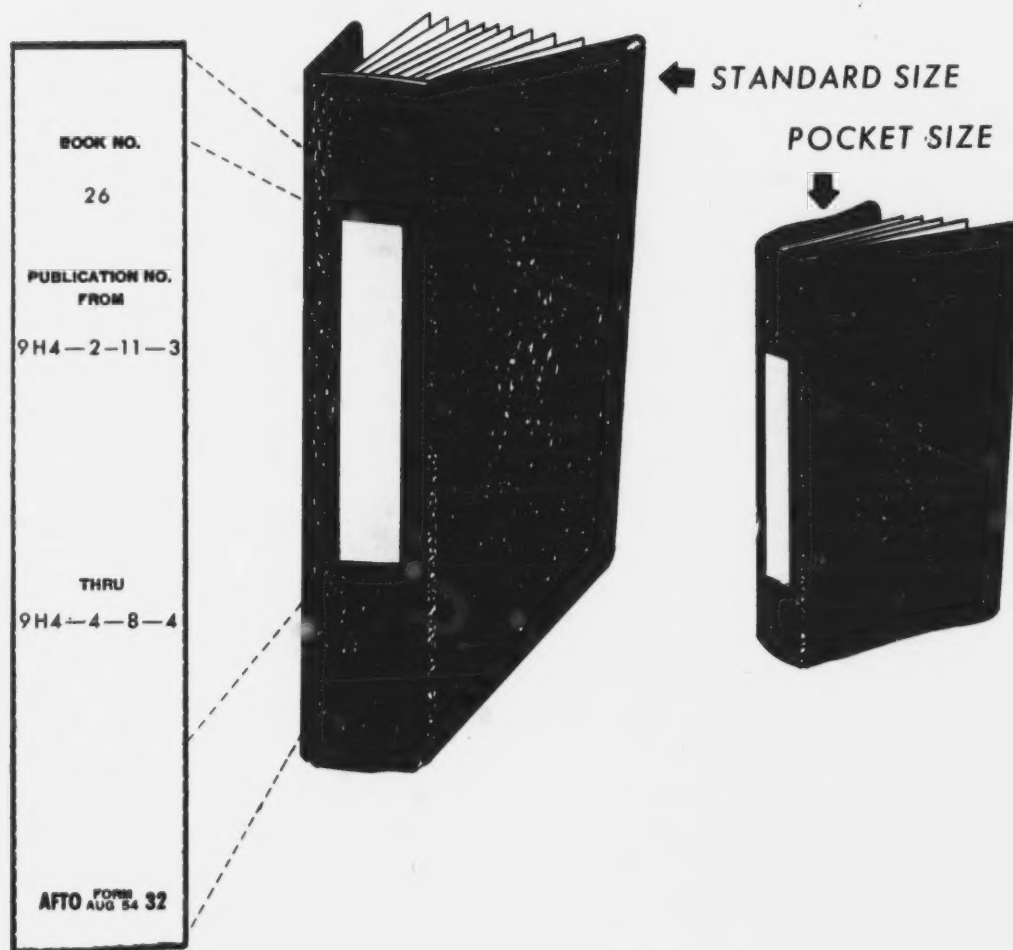

Figure 3-16. AFTO Form 32.
Filing TOs. TOs are placed in binders in the same numerical order in which they are listed in numerical index and requirements tables. Each standard binder contains a slot on its back in which an AFTO Form 32 is placed, as shown in figure 3-16. Note that the AFTO Form 32 in this figure provides one space for a book number and two spaces for publication numbers. The book number (26) is a locally assigned number. In another file, this same book could be numbered 9-4, which indicates that it is the fourth book containing category 9 technical orders. The two spaces for publication numbers are labeled "From and Thru." The number entered under From is the number of the first TO in the book. The number of the last TO contained in that book is entered under Thru. Any TO whose number falls between the first and